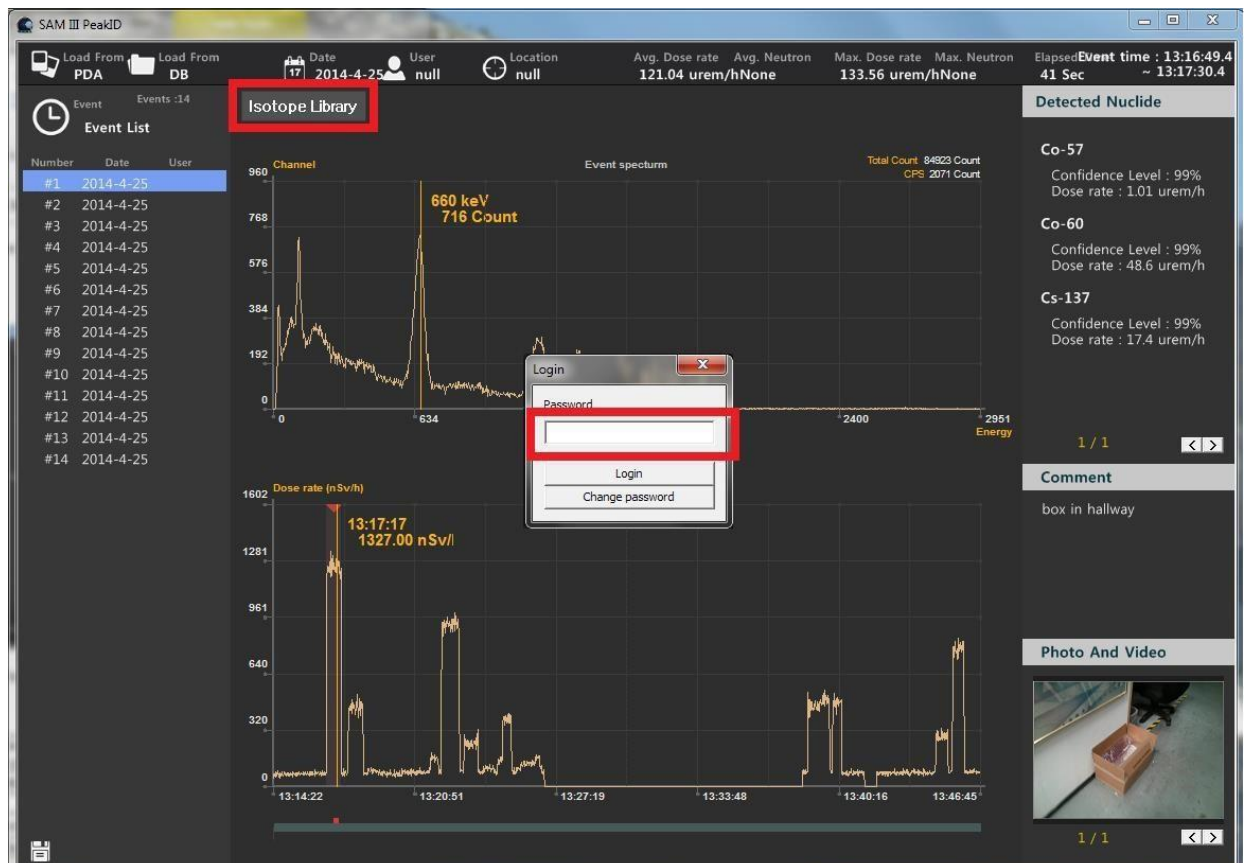

Figure 5.7. Isotope Library login
1. Click the **Isotope Library** button (Figure 5.7)